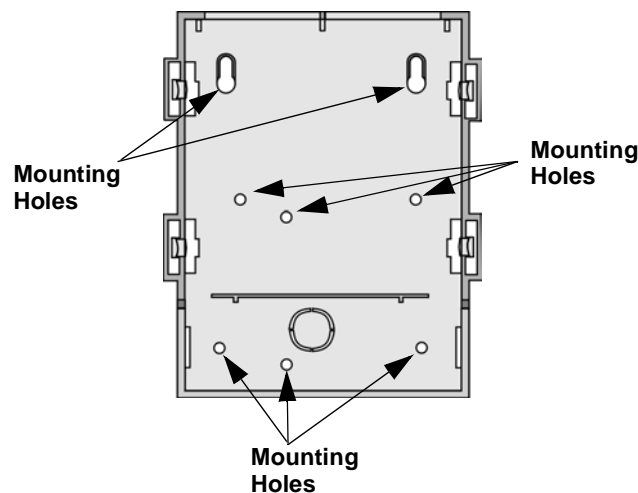

Figure 4-16 Base Mounting Holes
3. Mount the plastic base in a UL listed enclosure using any of the mounting holes in the plastic base. See Figure 4-16 for locations of base mounting holes.